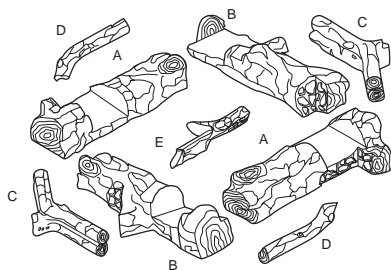

Figure 47 - Log Set (9 Pieces)
4. Figure 47 shows log set. Logs "A" have the knot at end of log. Logs "B" have the knot at middle of log. Twigs "C" have the shape of a "Y". Twigs "D" have the shape of bent twigs. Twig "E" is a straight twig which is placed across top of logs "B".